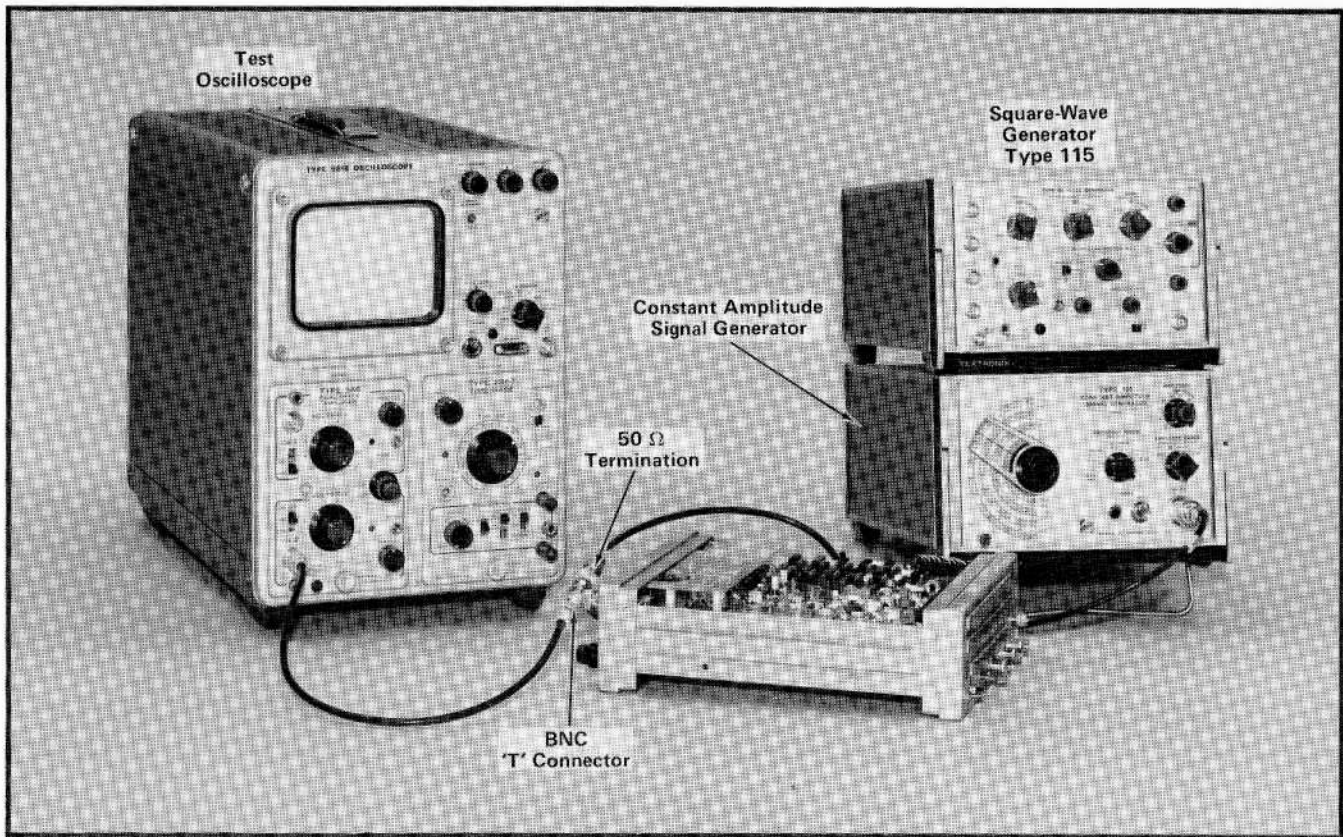

Fig. 5-9. Equipment setup to check 2901 countdown operation with an external clock signal applied.
- a. Test equipment setup is shown in Fig. 5-9.